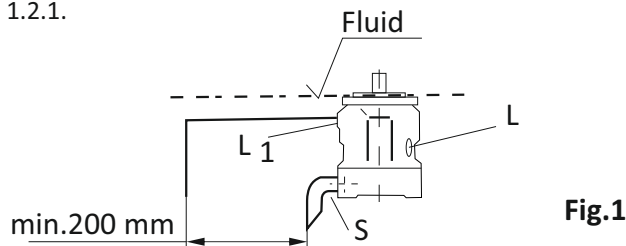

Fig.1
- If the minimum fluid level is equal to or above the pump mounting face close port "L" plugged, leave ports "L" and "S" open; L piped and recommendation S piped (see Fig.1).